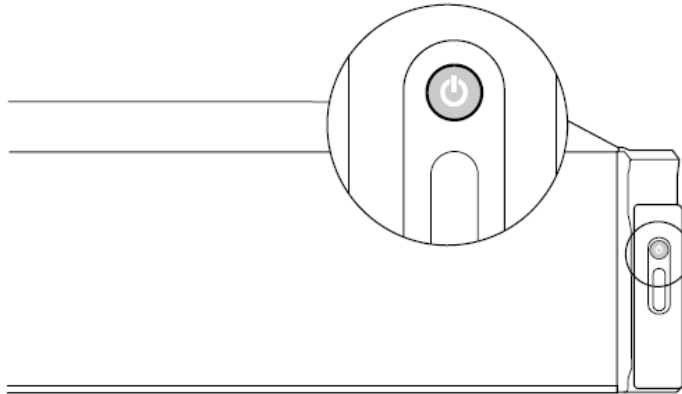

Figure 3-2: Power Button
Step 2: Push the power button (Figure 3-2).